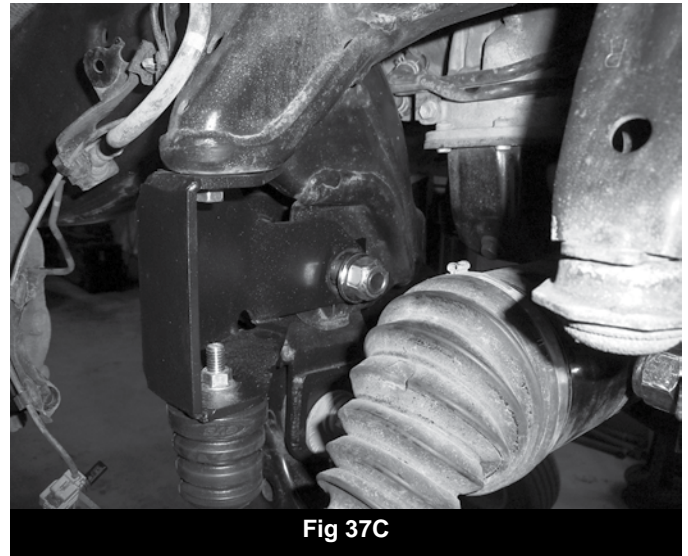

**Fig 37A**
49. Locate the provided bump stop mounts (02216 - drv, 02217 - pass) and new bump stops (M03138BK). The new mounts are side specific. The large tab will mount to the rear crossmember bolt and the small slotted hole mounts to the frame. Install the provided bump stops (Fig 37A) to the new mounts with a 3/8" flanged nut (BP 649). Tighten nut securely (do not overtighten, causing the bump stop to deform).